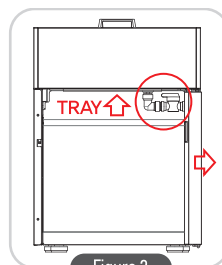

Figure 2
2. Open the ball valve under the tray. (It will not drain if you do not open it) ※See figure 2
2. Open the ball valve under the tray. (Figure: It will not drain without opening) ※See figure 2